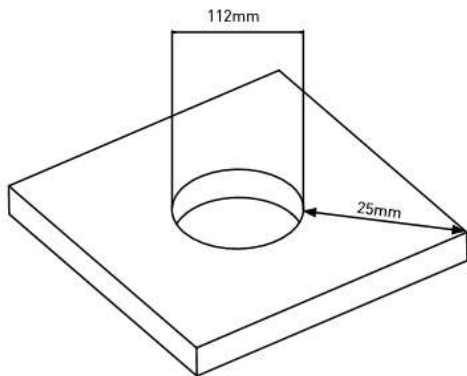

Fig. 1
- Cut a 112mm hole in the surface allowing a 25mm clearance around the hole (see Fig. 1)